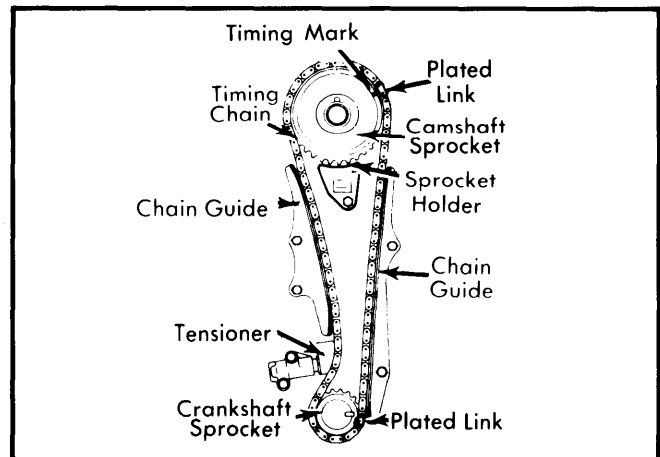

Fig. 9 Camshaft Sprocket Alignment and Installation
3) Install timing chain on camshaft sprocket and crankshaft sprocket. Be sure timing marks on sprockets (punch marks on teeth) align with plated links of chain. See Fig. 9. Holding parts in both hands, align crankshaft sprocket to keyway and slide into place. Align camshaft sprocket dowel hole with camshaft dowel hole and install dowel.